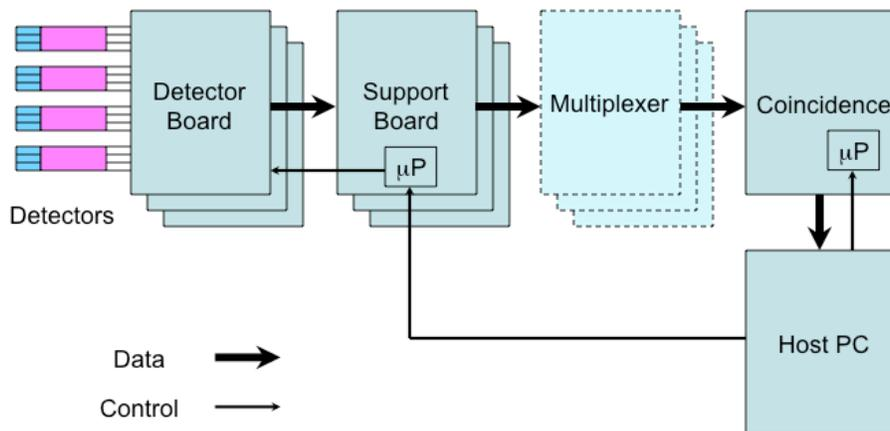

Figure 1: Schematic of the OpenPET system architecture.
The system architecture is shown in Figure 1. There are four types of custom electronics boards in the system: the Detector Board (DB), the Support Board (SB), the Multiplexer Board (MB), and the Coincidence Board. The Coincidence Board is identical to the Support Board, but has different FPGA firmware loaded into it. The general data flow is that analog signals from detector modules provide the inputs to the Detector Board. This board processes the analog signals to create a Singles Event Word, which is a digital representation of this single gamma ray interaction. These Singles Event Words are passed to the Support Board, whose main function is to multiplex the Singles Event Words from multiple Detector Boards. The Multiplexer Board is optional—it can provide a further layer of multiplexing for Singles Event Words, if desired. The multiplexed Single Event Words are then passed to the Coincidence Board, which searches through the Singles Event Words for pairs that are in time coincidence and forms a Coincidence Event Word when it does so. These Coincidence Event Words are then passed to the Host PC. Optionally, the Coincidence Board can act as a multiplexer and pass unaltered Singles Event Words to the Host PC. Control Signals originate from the Host PC, are passed to microprocessors that are on the Coincidence Board and Support Board, and are forwarded from there.